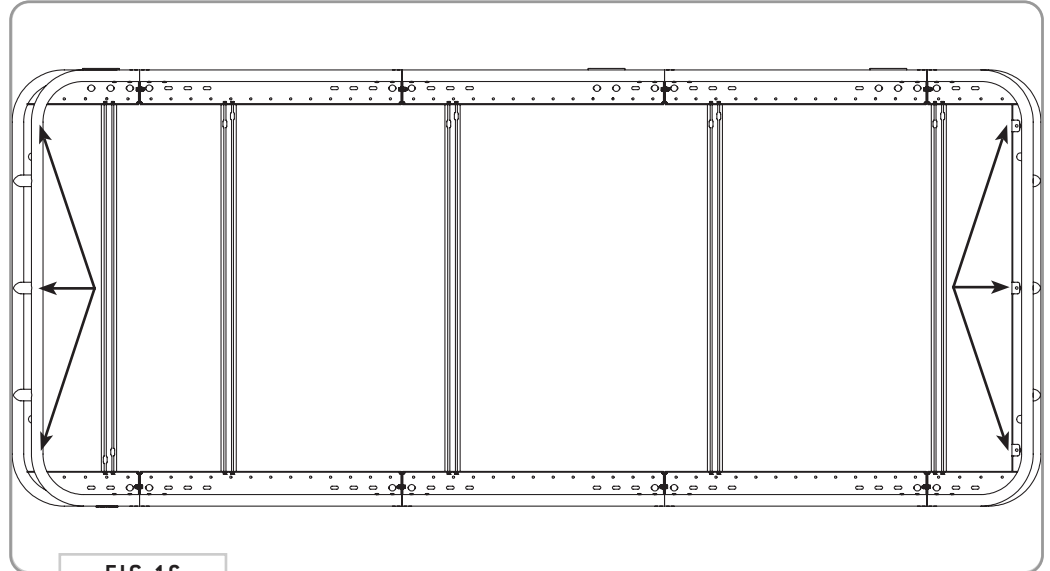

FIG 16
**7.1 Attach Clip Nuts to Baskets:** Install the **Clip Nuts** to the **Front and Rear Basket** locations as shown in **FIG 16**.